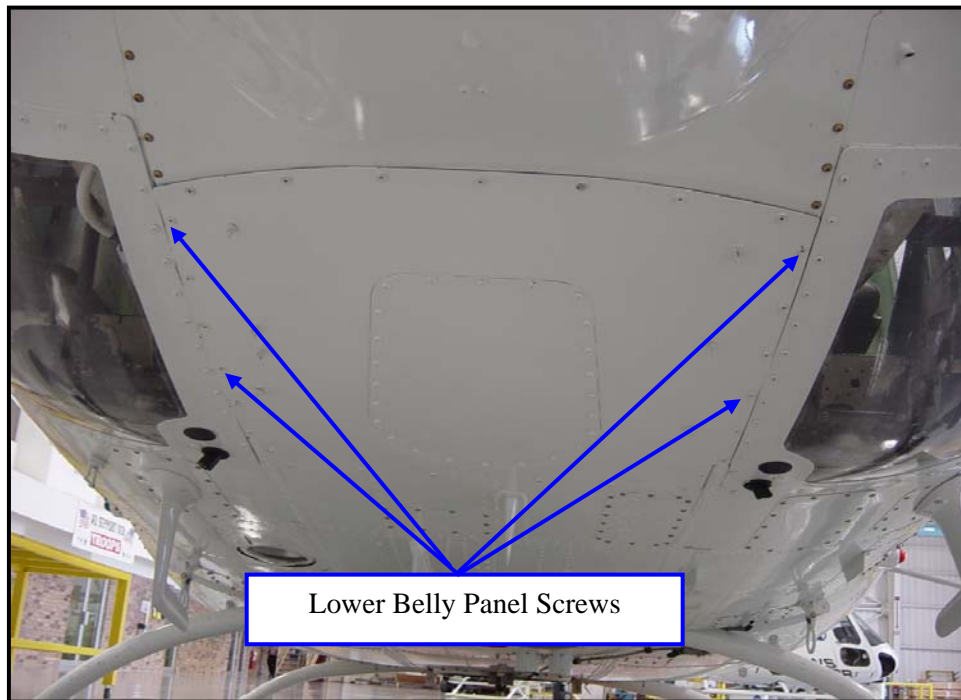

Figure 4.1.1 Lower Belly Cover looking aft
- 4.1.1 Remove quantity 8 existing screws (4 each on left and right sides) between the arrows on the lower belly cover as shown in Figure 4.1.1